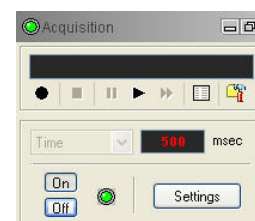

Figure 4-2 Acquisition panel
5. In the **Acquisition** panel (**Figure 4-2**) select the sampling mode (depth or time). Click on **Settings** and specify the corresponding sampling rate. Switch on the sampling (click the **ON** button).